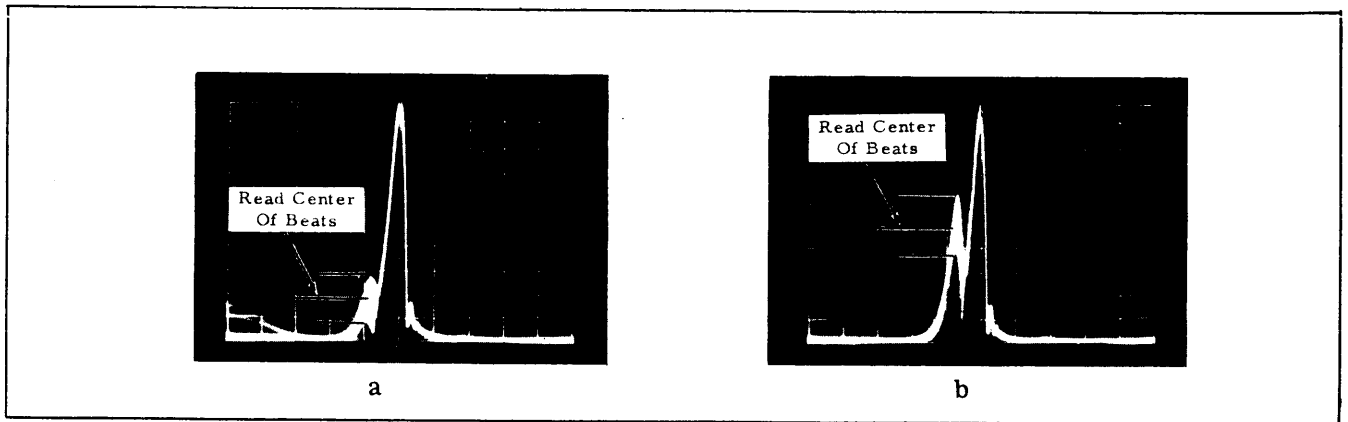

Figure III-4. Measurement of Closely Spaced Unequal Amplitude Signals.
8. If it is mandatory to observe a given bandwidth with the contained signals closely spaced, the best possible resolution is indicated by the clearest picture. A reasonably accurate measurement of relative amplitudes can be made by reading the center of the beats. This is illustrated in Figure III-4. The amplitude ratio in (a) is greater than the ratio (b), resulting in a different presentation.